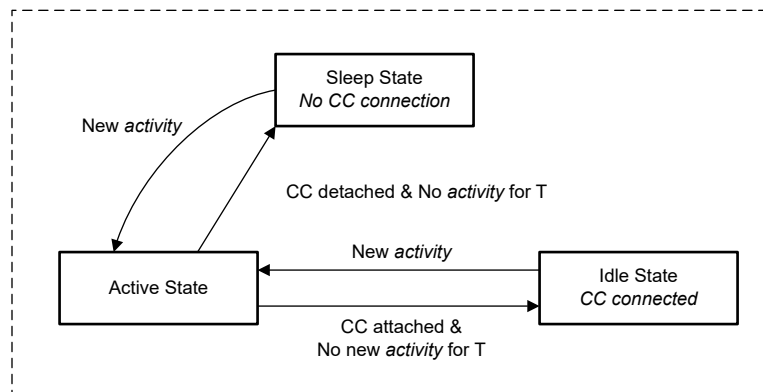

Figure 8-38. Flow Diagram For Power States
The TPS26741E-Q1 operates in one of four different power states: Active, Idle, Sleep or Shutdown. The functionality available in each state is summarized in Table 8-9. The device automatically transitions between the power states based on the circuits that are active and required, see Figure 8-38. In the Sleep State the TPS26741E-Q1 detects a Type-C connection or other activity that requires moving to the Active state (such as liquid detection actions). Transitioning between the Active mode to the Idle mode requires a period of time (T) without any of the following activity: